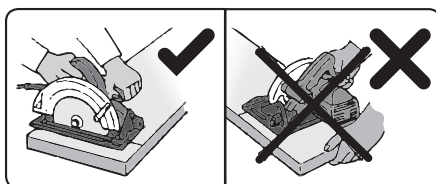

Fig. 6
2. Hold the saw with both hands by the main and the front handle (see fig. 6) and starting with the front part of the base plate, place it on the cutting surface so that the blade is touching the material that is